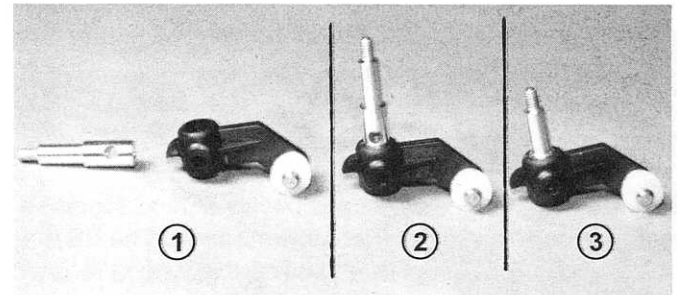

Fig. 4
□ **Fig. 4** 1) In bag #8-1 you will find two #6220 aluminum inline front axles. The hole drilled in the axle is for the steel kingpin which you will install in a couple of steps. 2) In order to install the kingpin easily, use your X-acto© knife to deburr and bevel the outer edge of both sides of the hole.